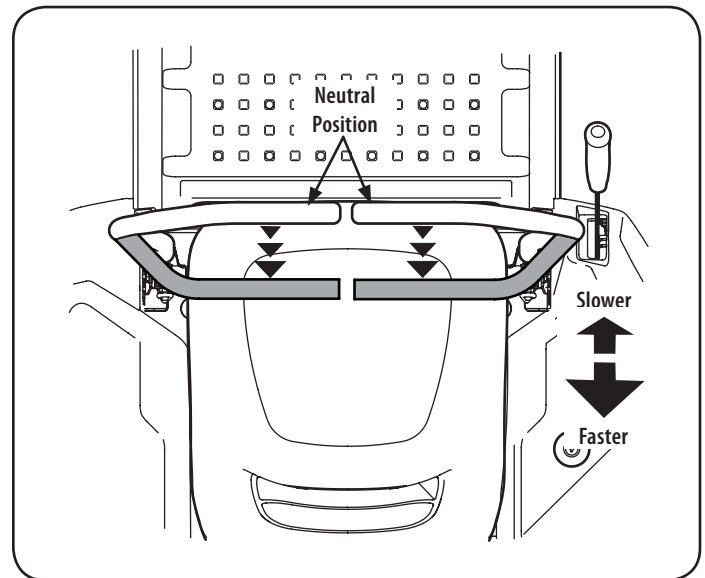

Figure 13
1. Slowly and evenly move both drive control levers rearward. The riding mower will start to move in the reverse direction. See "Figure 13".